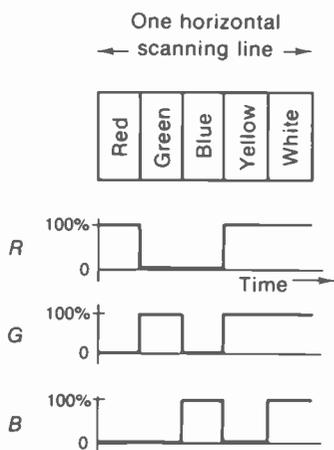

FIGURE 8-7 R, G, AND B VIDEO SIGNAL VOLTAGES FOR COLOR-BAR PATTERN.
**The primary color video signals.** The camera receives red, green, and blue light corresponding to the color information in the scene, to produce the primary color video signals in Fig. 8-7. These waveforms illustrate the voltages obtained in scanning one horizontal line across the color bars indicated. The red camera tube produces full output for red, but no output for green and blue. Similarly, the green or blue camera tube has output only for that color.